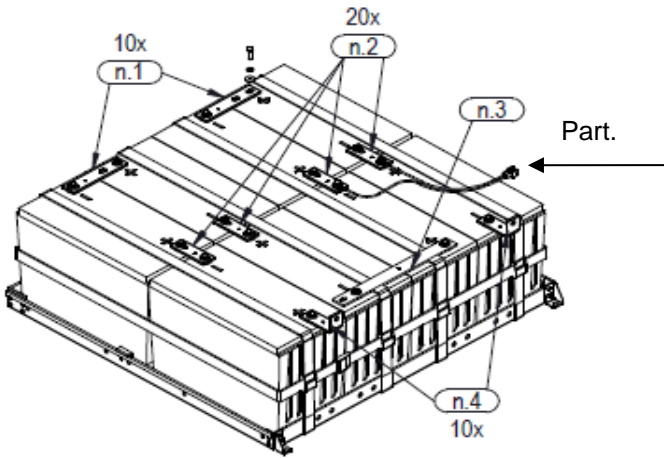
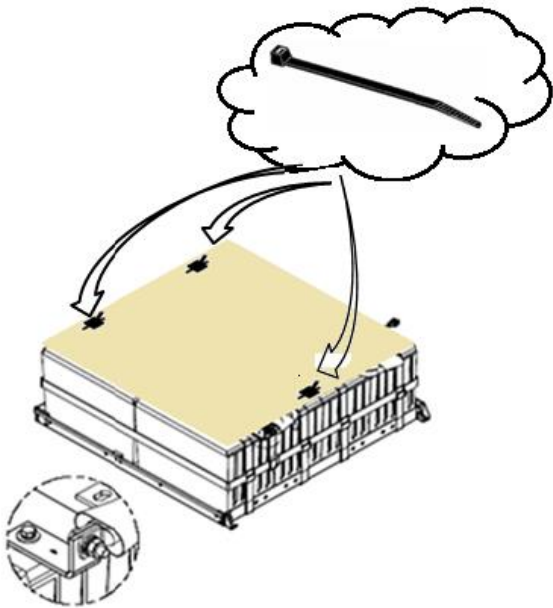

Fig. 8 - bus bars references
Fig. 10 - Insulating sheet fixed with cable ties for covering bare bars of batteries
Connect the busbars provided (pos. 7÷10) as shown in Fig. 8 (see the number stamped on each bars).
Put the insulating sheet provided on the assembled tray for covering bare bus bars and terminals, Fix the insulating sheet with cables ties, Fig. 10.
Assembled tray n. 1 only: connect one end of the red cable at terminal (+), black cable at terminal (-) of batteries blocks shown in Fig. 8 and the other end to the cable coming from AUX fuse holder (see electric drawing). Put and fix the insulating sheet on batteries after tray is assembled. (Fig. 10)